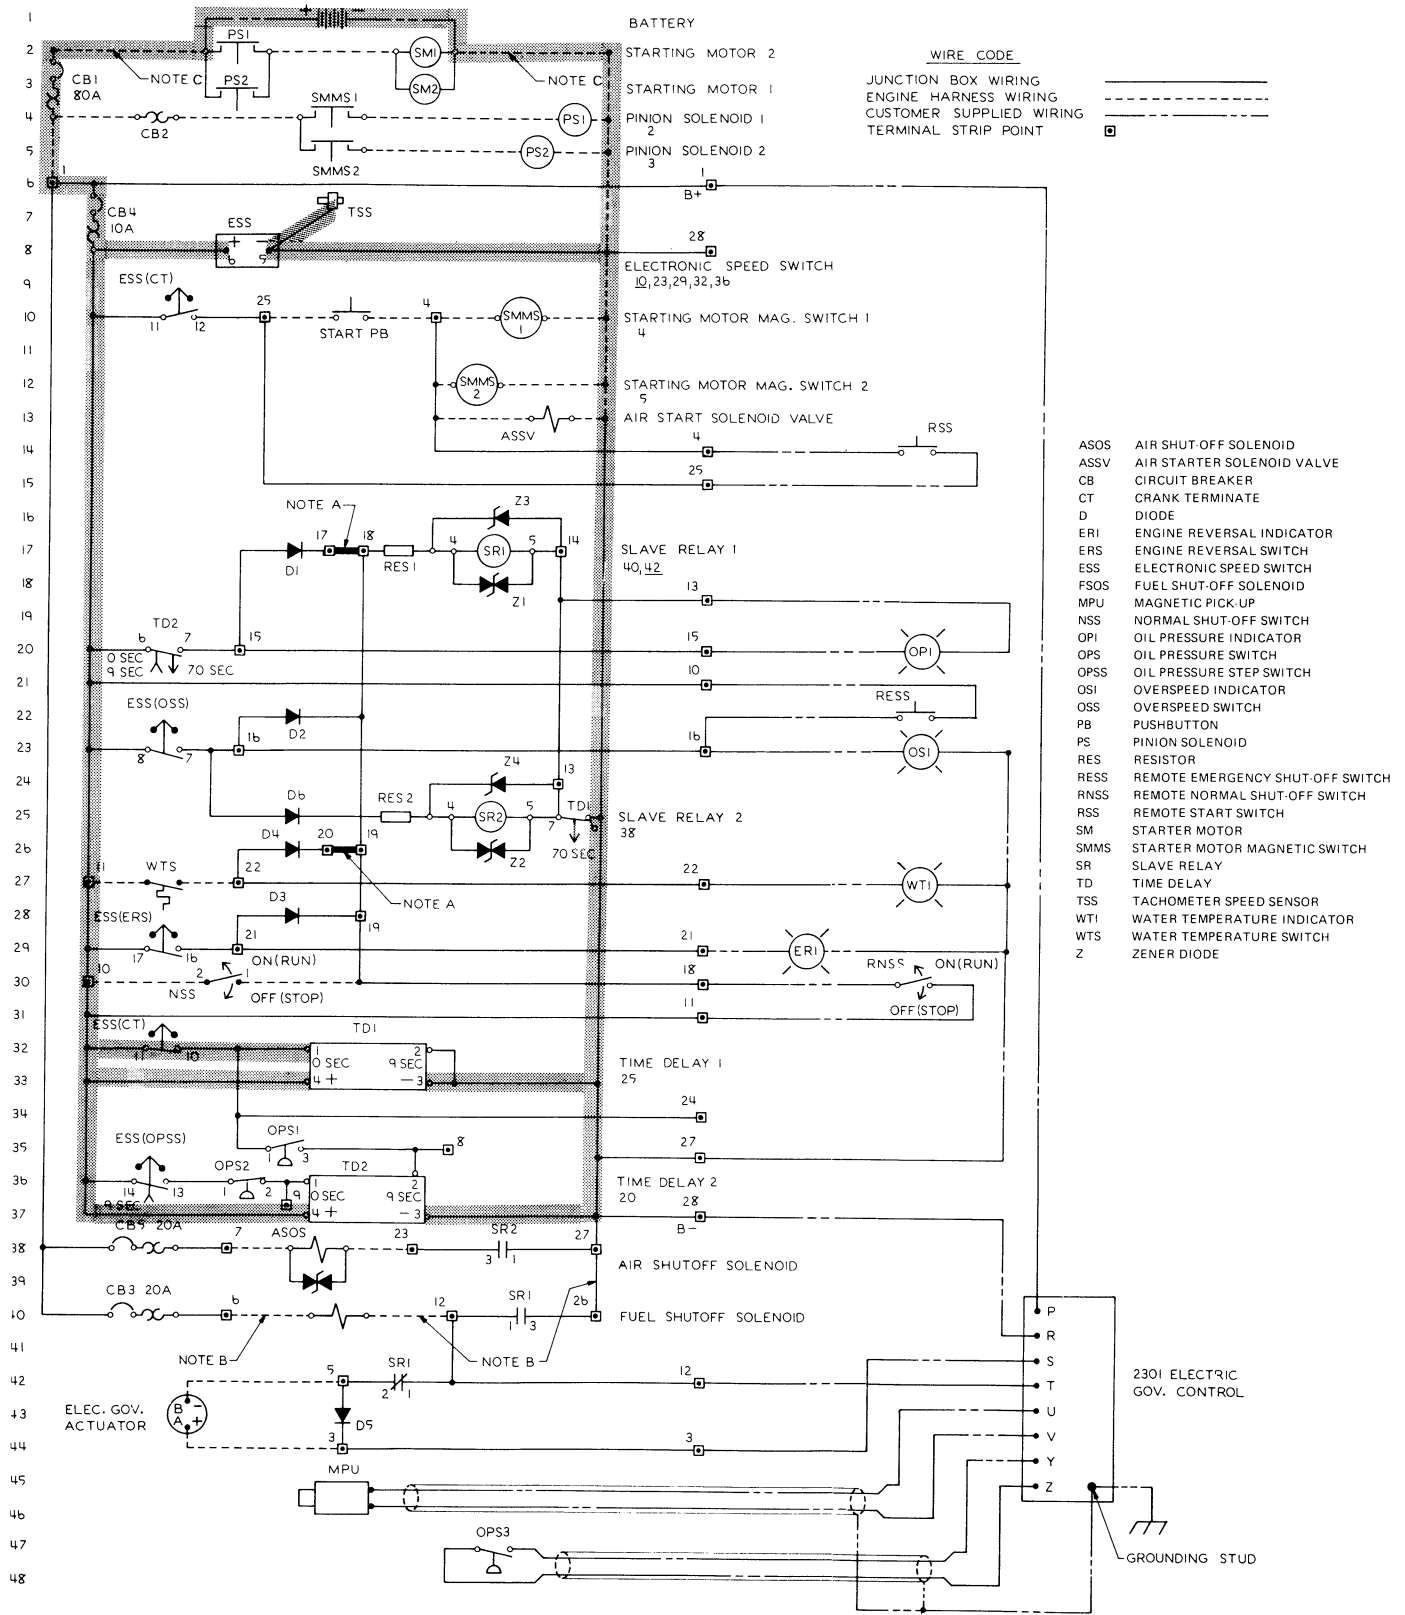

Fig. 3
When the engine starts to run, the speed will increase to the speed setting of the ESS crank terminate function, and the ESS(CT) switch across terminals ESS-11 and ESS-12 will open. The current flow is now stopped to the starter motor(s) as shown in Fig. 3.